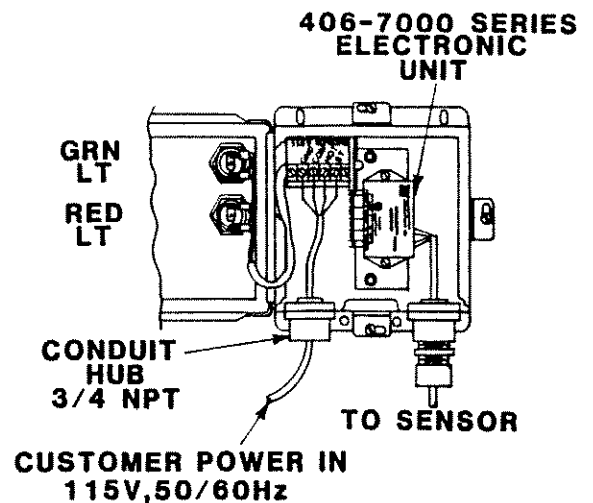
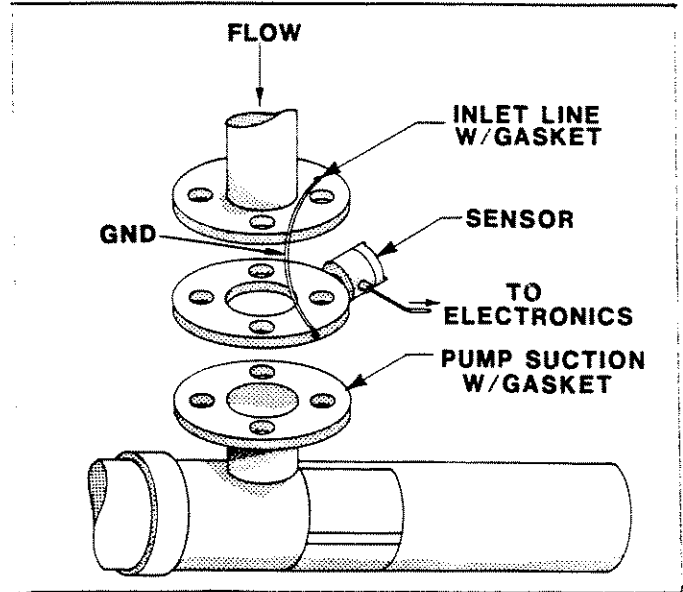

Fig. 3-1B
Fig. 3-7
A. Be sure to mount the sensor in a vertical run of grounded metal pipe. This will allow the process fluid to drain away whenever the flow is interrupted. See Figure 3-7. Non-metallic or lined pipe will adversely affect the performance of the unit. Consult factory.
D. Install the ground strap under the flange bolt nearest the sensor conduit (see Figure 3-7) to insure proper electrical contact. (See Figure 3-1B.)